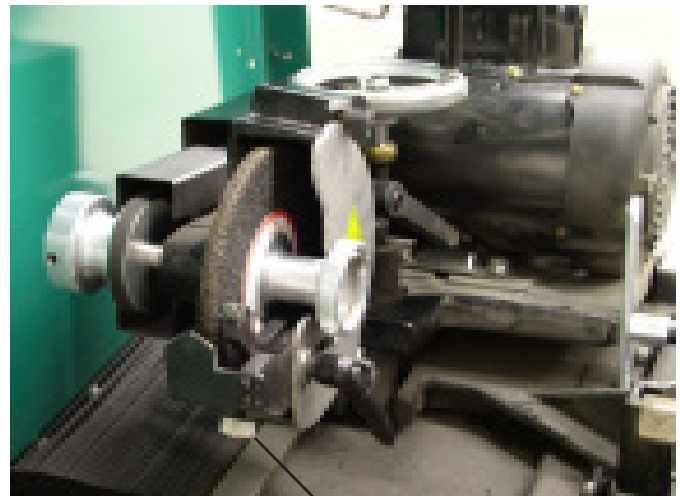

FIG. 66
A. This grinder is equipped with two grinding wheels and two grinding wheel guards. Prior to relief grinding install or verify installation of the 3/8" (9.5 MM) wide grinding wheel and the relief wheel guard which has the relief and index fingers attached. See FIG. 66.
J. Adjust the index finger positioning by rotating the back travel adjust knob on the away side of the grinding head. This position must allow approximately $1/32"$ (1 mm) free play of the index finger when the blade is resting on the high point of the relief finger. See FIG. 66 - 68.